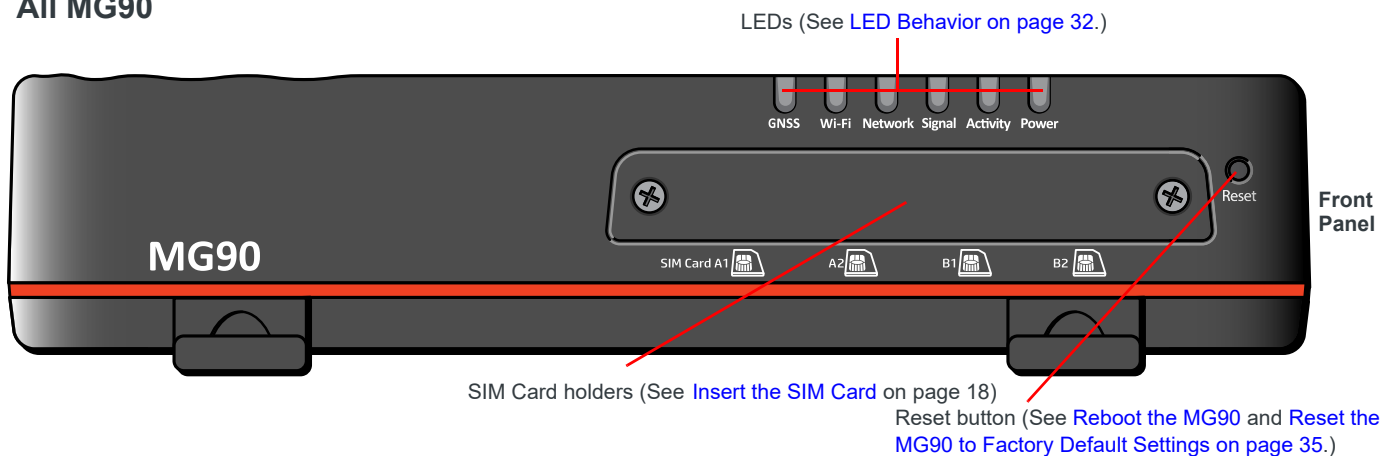

Figure 1-1: MG90 Connectors, LEDs and SIM Card Holder
**Figure 1-1** shows front and back panels of the MG90. On the back panel, all connectors and labels are identical between MG90 LTE/LTE-A/LTE-A Pro and MG90 5G except for cellular radio connectors (as indicated).